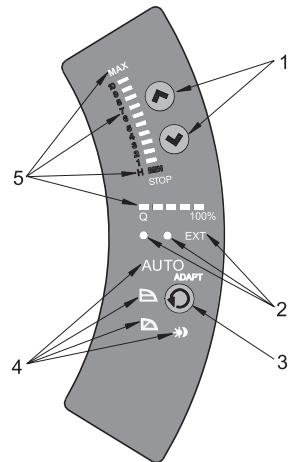

Fig. 19 Control panel
The control panel, fig. 19, incorporates:
The light symbols in pos. 4, see fig. 19, indicate the pump settings: